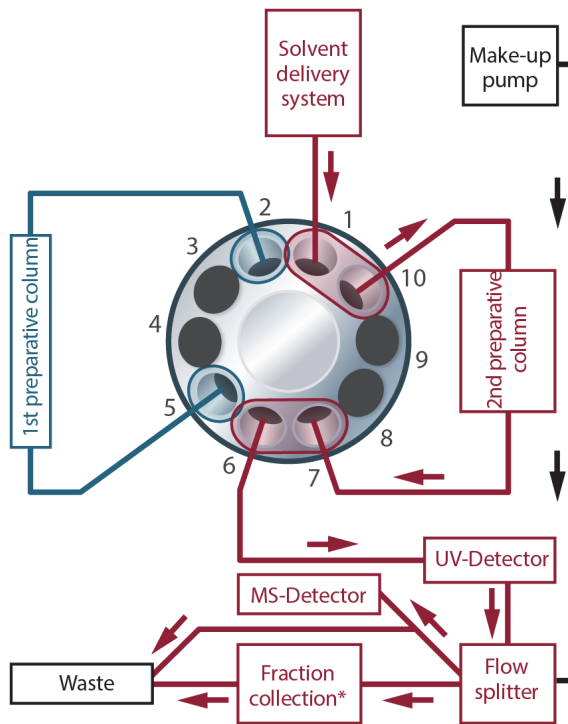

Figure 28 Schematic overview for a UV-MS detection based preparative scale system with flow split after UV-detection
- UV detector before splitter (see Figure 28 on page 69)